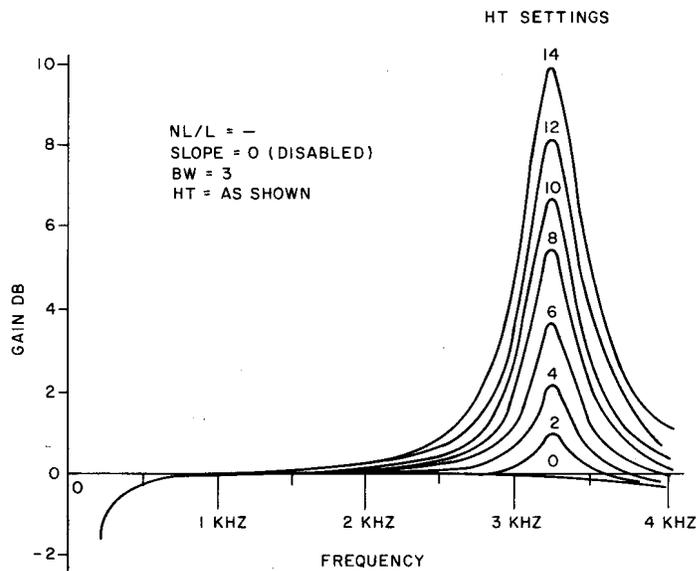
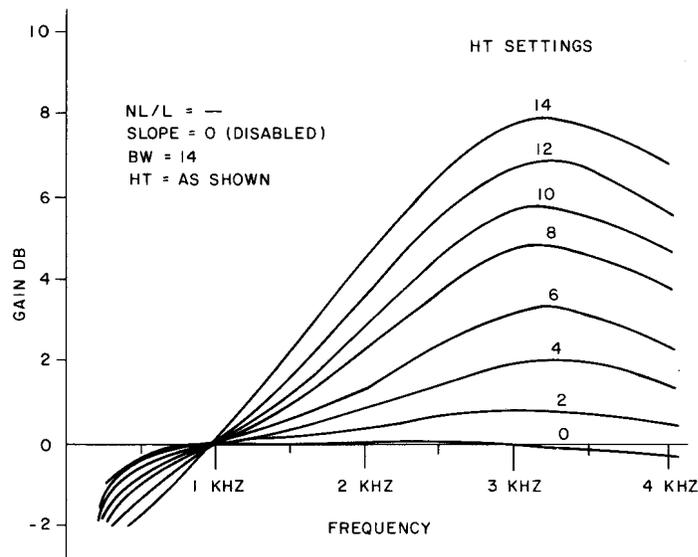

Fig. 15—Gain-Frequency Response of the 309B Amplifier Unit (Equalizer)—BW = Small Setting, HT Variable
Fig. 16—Gain-Frequency Response of the 309B Amplifier Unit (Equalizer)—BW = Large Setting, HT Variable
**6.04** The narrow bump shape of Fig. 15 is typical of settings used for high-frequency equalization of loaded cable. An intermediate width bump is used for a combination of nonloaded and loaded cable, and a wide bump (Fig. 16) is used to equalize nonloaded facilities.